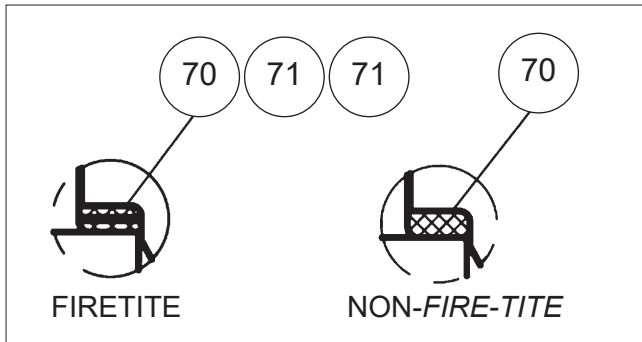

Figure 4. Stem Bearing Orientations
7. For Fire-tite®, place the stem bearings (70) and secondary stem seal (71) as shown in **Figure 4** on the stem. For non-Fire-tite place the stem bearing (70) on the stem. See How to Order Section to determine proper valve construction.